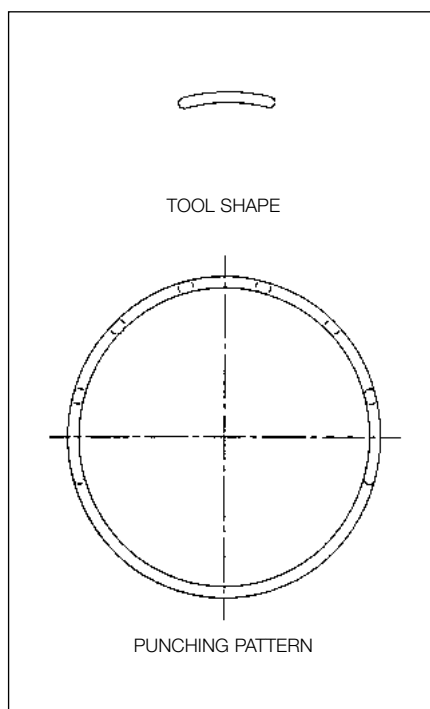

Figure 2
**Figure 2:** This type of tool is used by slitting around the diameter required and removing the material at the centre. The advantages with this design are, that fewer hits are required, you may punch round blanks, using the inside radius, or round holes, using the outside (or both!!)